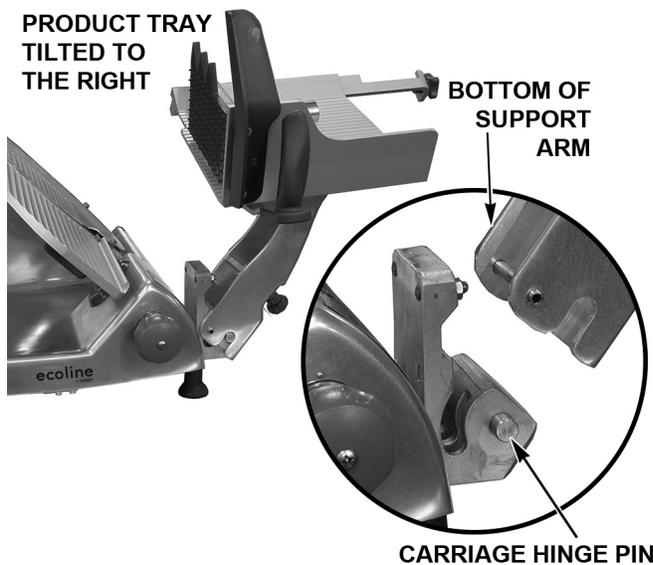

Fig. 7
- Loosen the Knob (Fig. 7) on the Support Arm. Tilt the Product Tray to the right (Fig. 7).